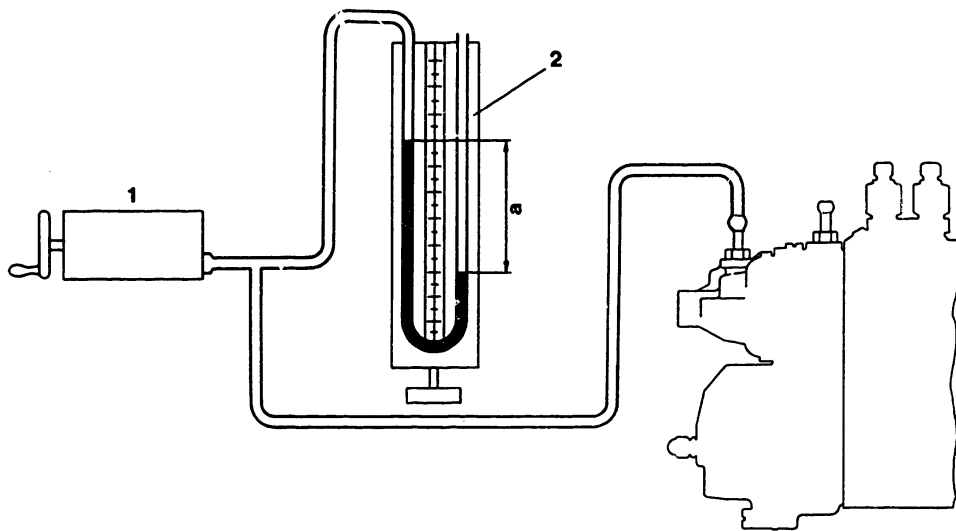

Fig. 58
1. Reduce pressure of the pneumatic governor's negative pressure chamber to A (500 mmAq) at pump speed of 500 rpm and control rack position R1. (Figs. 58 and 59)